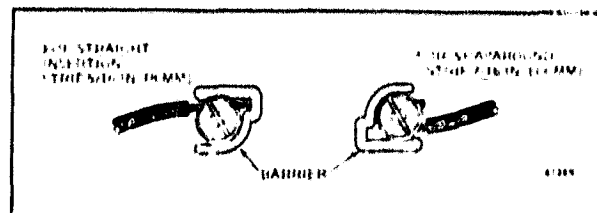

FIG. 5—BARRIER CONFIGURATION.
4. Run wires as close to the subbase as possible. To prevent interference with the thermostat linkage, keep wire length to a minimum, and make certain wires do NOT protrude outward beyond standoffs (Fig. 5). Push excess wire back into the hole, and plug hole to prevent drafts from affecting thermostat operation.
The shape of the terminal barrier permits insertion of straight or conventional wrap around (Fig. 5) wiring connections. Either method is acceptable. When making connections, strip wire to the length specified in Fig. 5.